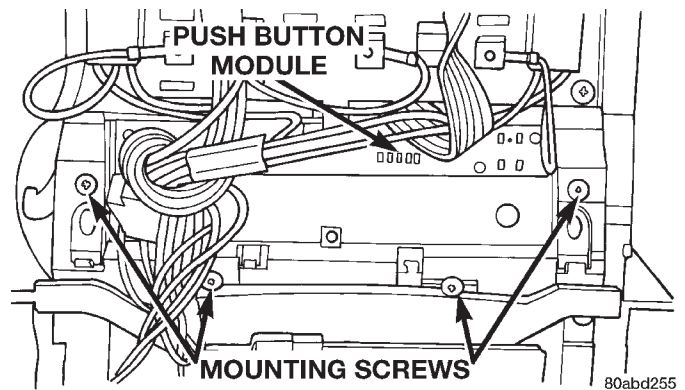

Fig. 5 Push Button Module Remove/Install
- (1) Remove the overhead console from the vehicle. See Overhead Console in this group for the procedures.
- (2) Unplug the push button module wire harness connector from the trip computer, compass, and thermometer display module.
- (3) Remove the four screws that secure the push button module to the overhead console housing (Fig. 5).